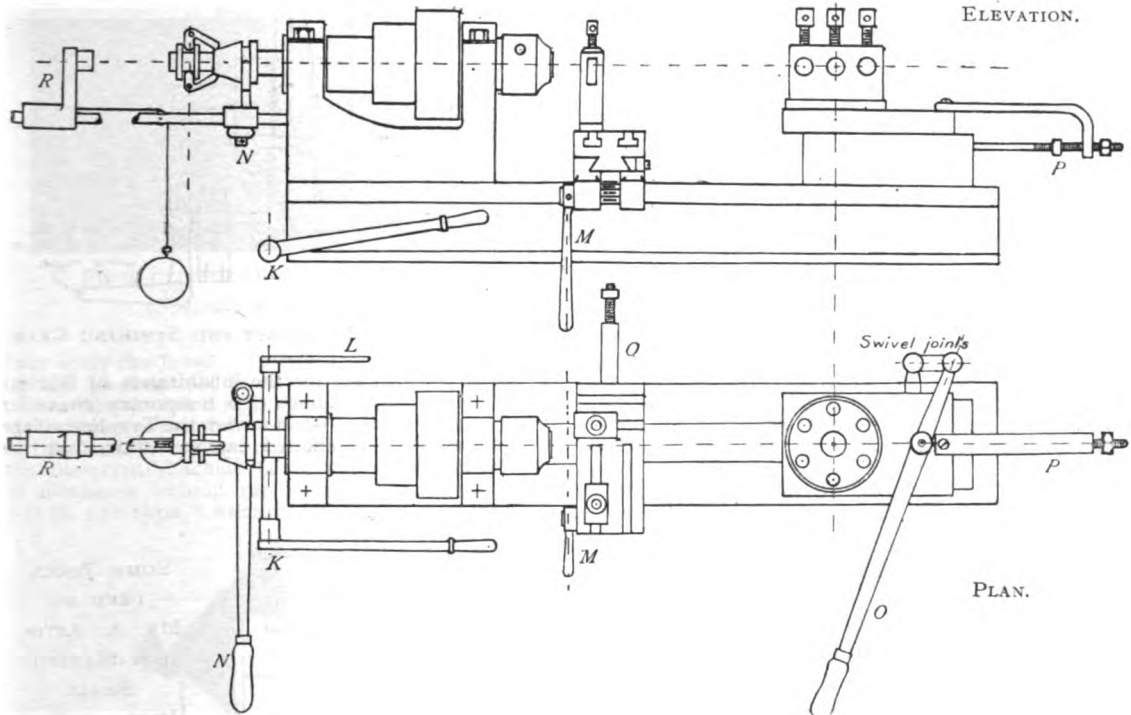

FIG. 1.—DIAGRAM OF CAPSTAN LATHE, SHOWING ARRANGEMENT OF LEVERS, ETC.
(1) Running-down tools to fit in poppet of lathe, of suitable sizes, as per sketch, with set screw fitted in end of rest for setting length of bolt. (Fig. 1.)
for repetition work. These capstans have usually 6-in. centres on 3-in. straight beds, large hollow mandrels fitted with interchangeable "draw-in" chucks, and actuated by a lever and clutch fitted on rear end of headstock. The use of draw-in chucks enables the operator to withdraw a length of rod from the chuck sufficient to form the bolt or nut as the case may be, and to tighten same in position without stopping the lathe. A headpiece having a female cone centre (marked R in Fig. 1) is also fitted to slide over a circular bar, which is screwed to the back of the headstock and keywayed for its full length. A wire rope fastened to the headpiece passes over a small grooved pulley to which a weight is attached, provides the necessary movement when feeding the rod. The cone centre in R, fitting over the end of the rod, pushes the rod through the chuck when the latter is opened by the lever N, and actuates the forked clutch of the draw-in chuck.